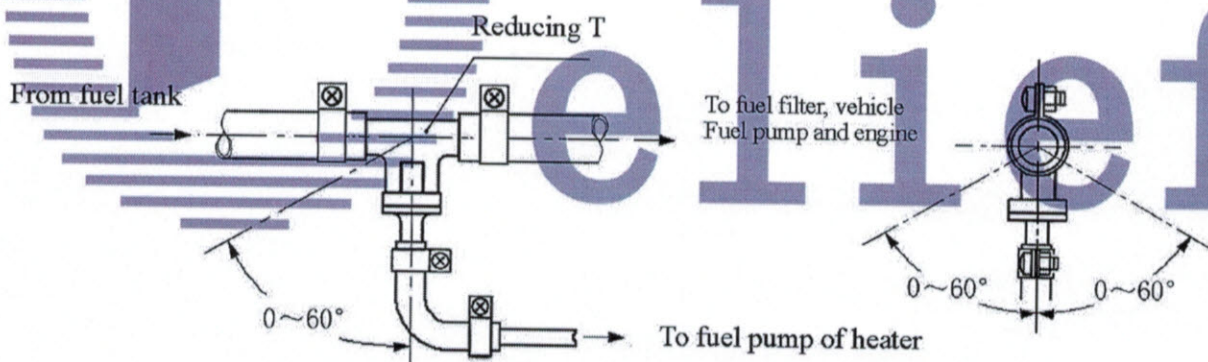

Fig. 16
4.4.6.2 If fuel is sucked from the fuel pipe to the engine, the fuel pipe from the fuel tank to the fuel filter shall be disconnected and re-connected with the thicker pipes of the reducing T and the thinner pipe of the reducing T shall connect the fuel pump of the heater via oil tube fitting and fuel tube. The angle for installation must in conformity with Fig. 16, or normal work of the heater will be affected.